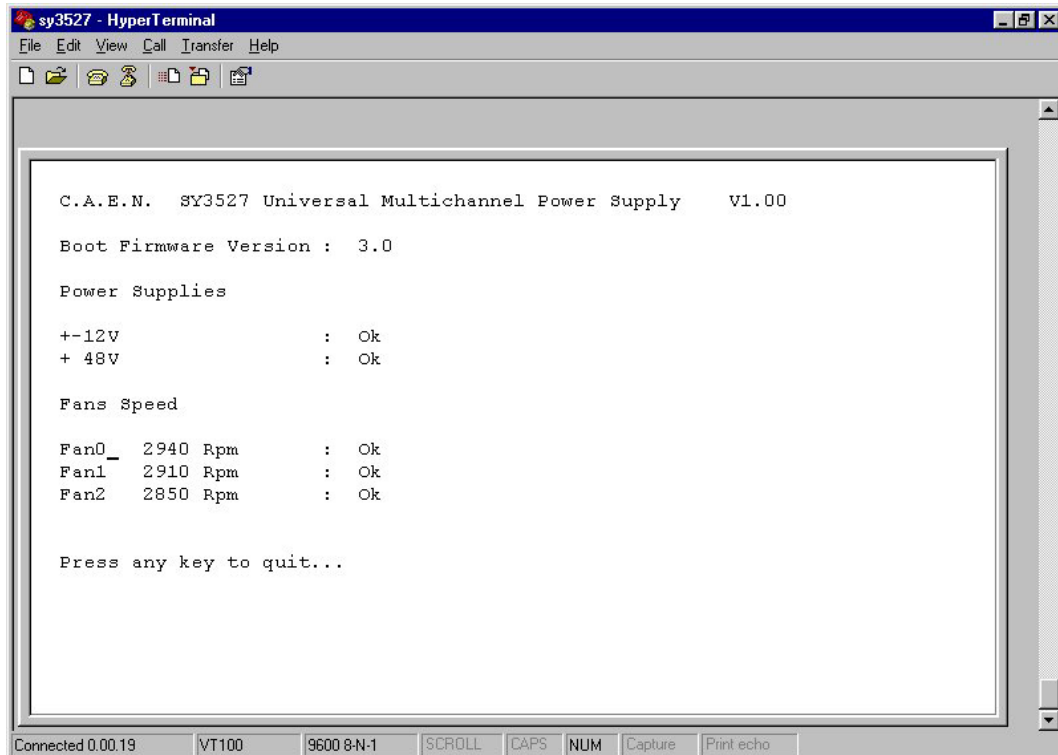

Fig. 5.4 – General Window
- GENERAL:** shows some system's general information (see Fig. 5.4)